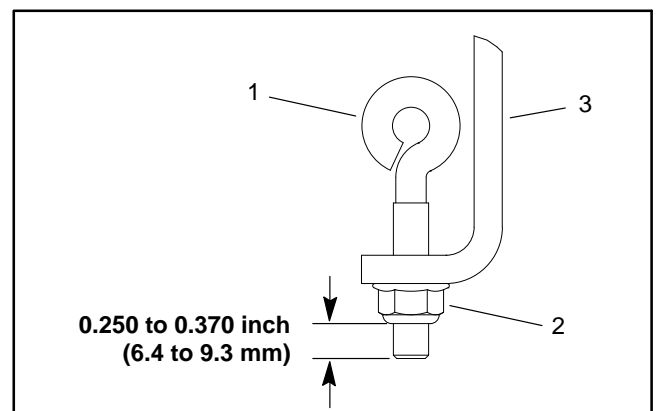

Figure 56
2. If eye bolt that locates the bottom of the neutral arm spring is removed, install eye bolt so threads extend below the flange nut from 0.250 to 0.370" (6.4 to 9.3 mm) (Fig. 56). If quicker return to the traction neutral position is desired, adjustment can be made to increase amount of thread extension. This adjustment will also result in higher pressure required to depress traction pedal.